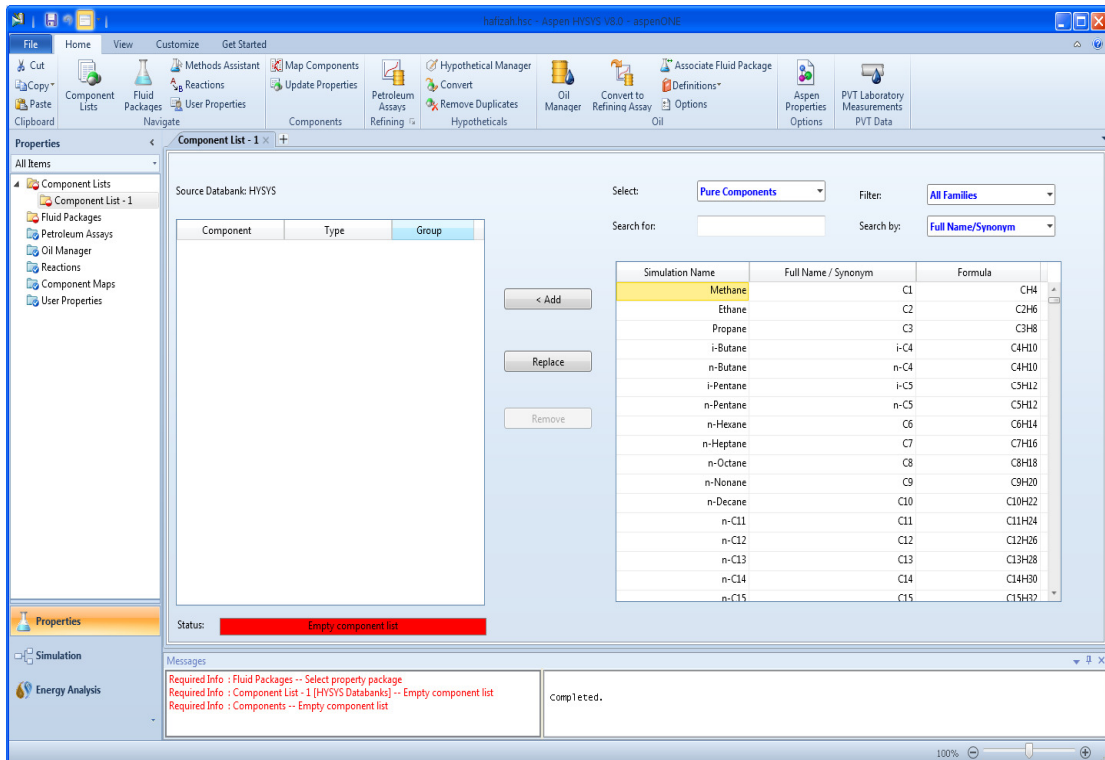

Figure 4: Component list view
3.2 Select the “Component Lists” tab. Click the “Add” button to display a new component list as shown in Figure 4.